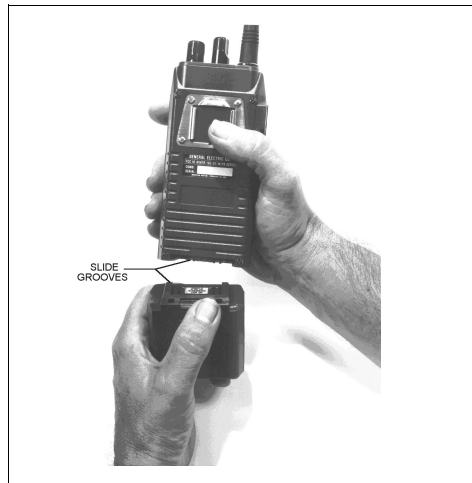

Figure 3 - Installing the Battery Pack
3. *Align the battery pack and radio slide grooves. See Figure 3.*